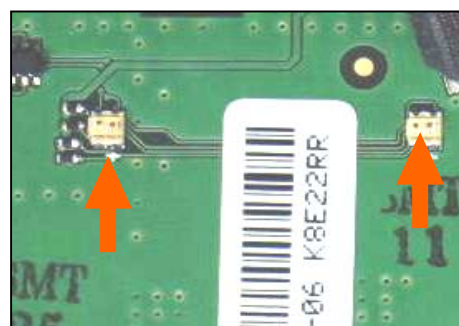

Fig. 6.2
- Check the Display LED (Fig. 6.2) if it's incorrectly soldered or damaged. Replace Display LED if necessary.